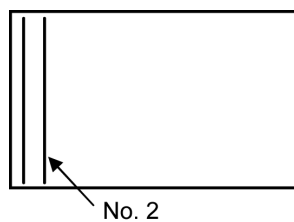

Fig. 3
b. Adjust the vertical line no. 2 to straight line (parabola) by EW-AMP1 60 Hz offset. (Fig. 3)